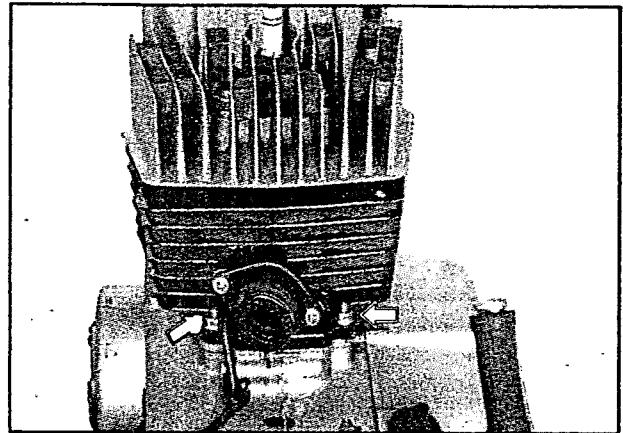

Fig 3.17
- Loosen the nuts (2 nos) shown in (fig 3.17)